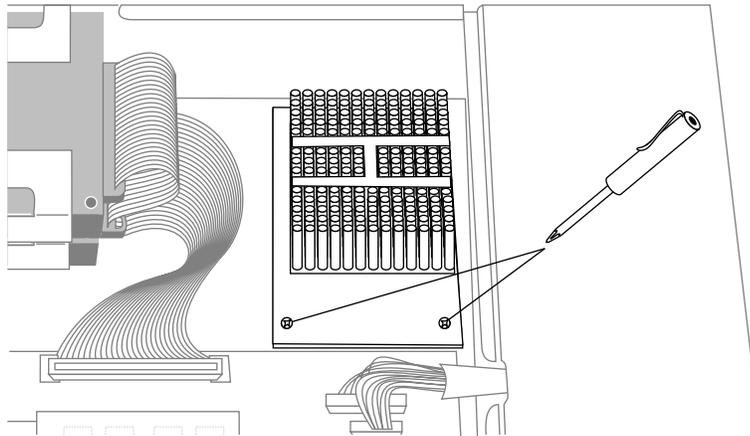

Figure 2-4 Removing the Two Screws From the CPU Module
2. Using the Phillips screwdriver provided, remove the two screws that connect the CPU module to the system board, as shown in Figure 2-4.